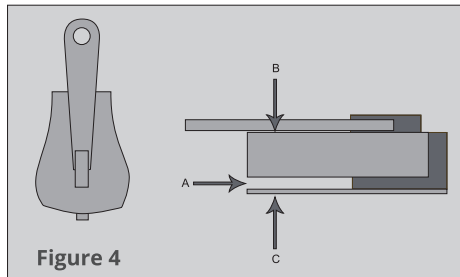

Figure 4
**See Figure 4.**
By simply 'crimping' the slider together at points B & C with a pair of pliers, this solves the problem most of the time. Crimping in other planes is worth a try if B & C does not work. This is to be done when the zip slider is still attached to the zip in the open position. **See Figure 4.**